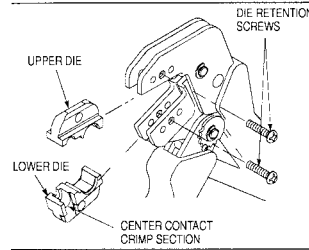

Figure 2
3.1. Shouldered Dies (Figure 2)
NOTE Die assemblies with center contact crimp sections should be installed with the center contact crimp section toward the front of the tool jaws as shown in Figure 2. If indicated otherwise in other instructions, follow the specific die requirements demonstrated in that document.